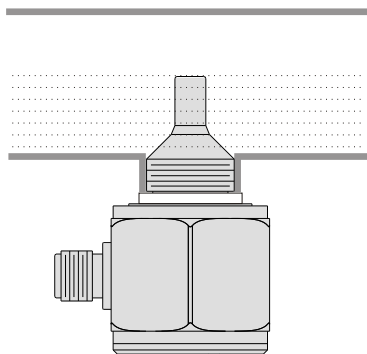

Fig. 3
3. For not-fully-filled pipes, SP needs to be installed underneath. Liquid level needs to be higher than the probe height. (Fig. 3)